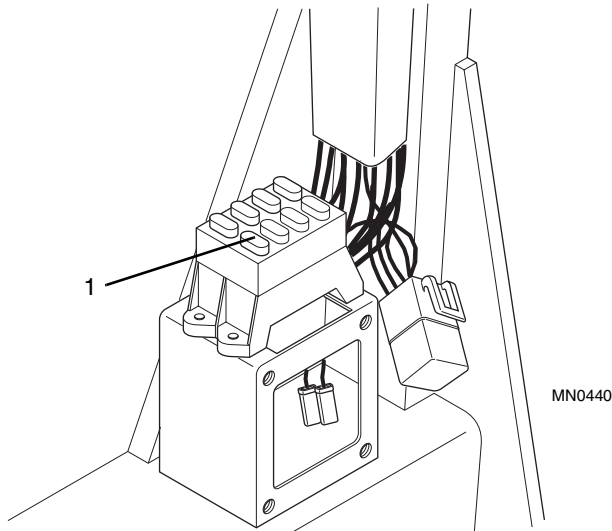

Figure 8-25 Fuse Block
1. Check the 40 amp fuse (Fig. 8-25, 1) in the fuse block. It may be open and require replacement.